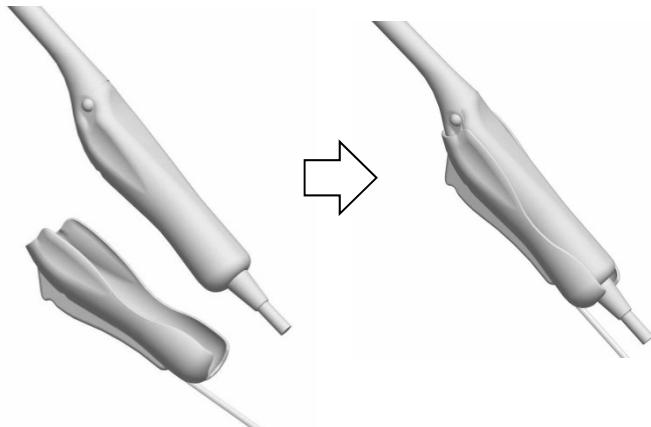

Fig. 9 How to attach the Magnetic sensor attachment
- 4) Attach the Magnetic Sensor Attachment to the probe as shown in Fig. 9.